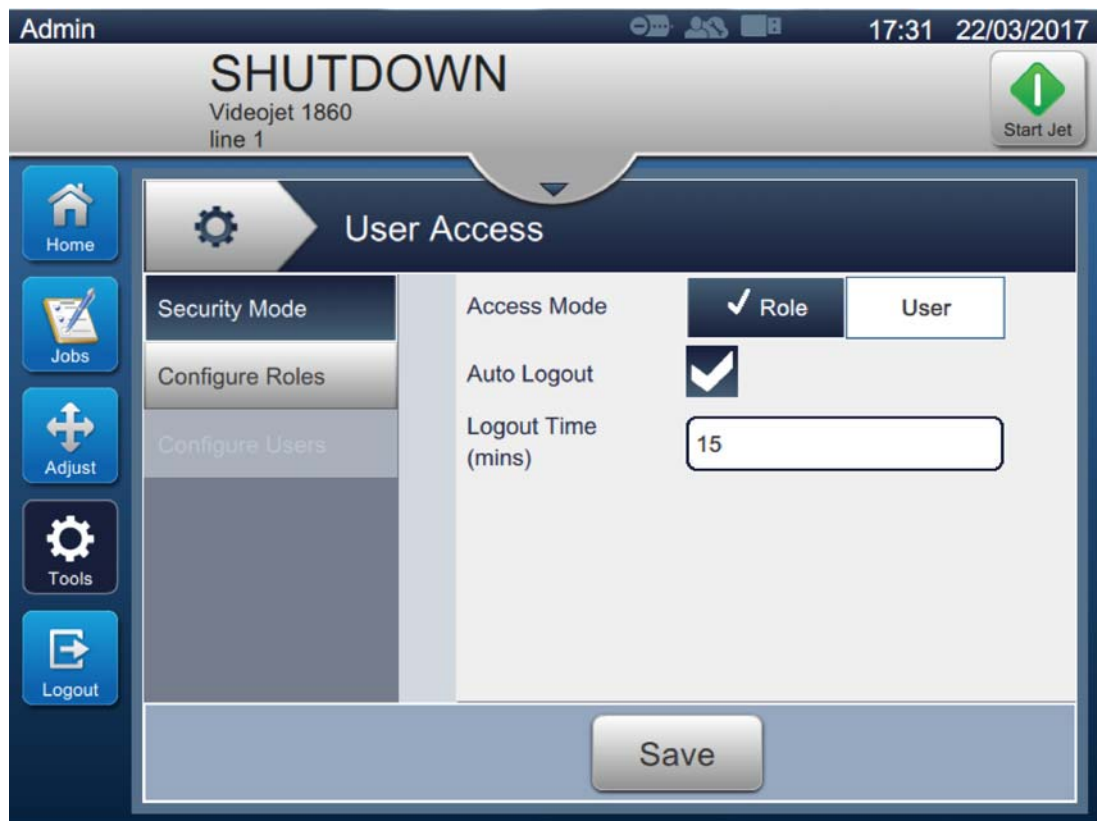

Figure 6-18: User Access
1. Touch the  button from the Tools screen. The User Access screen opens as shown in the Figure 6-18.